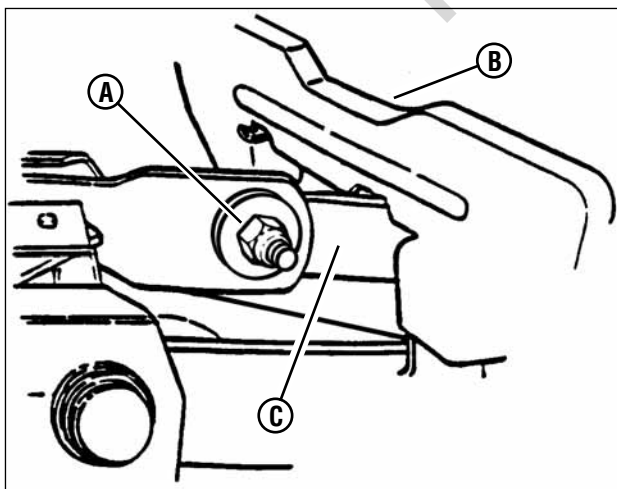

Figure 33: Adjusting deck levelness (side-to-side)
6. Loosen the hardware (**A**, **Figure 33**) that retains the left side of the blade pedal (**B**).